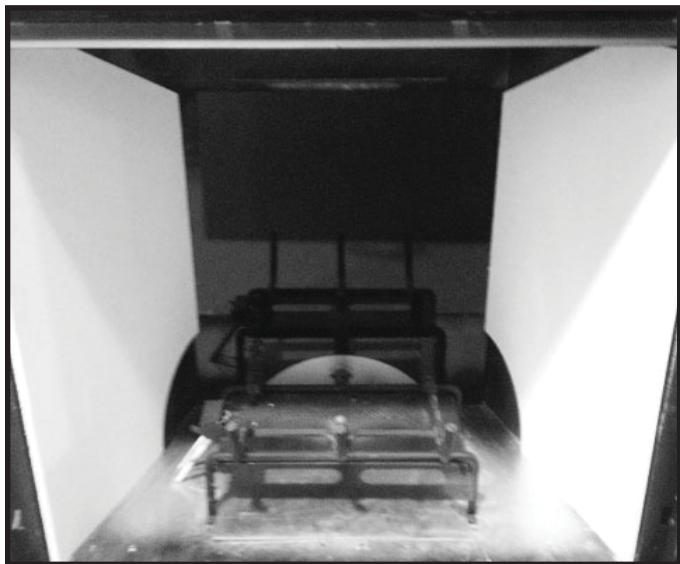

Figure 6. Left Spacer
5. Install the other white side spacer on the left side of firebox as shown in Figure 6. The spacer will be flush with the firebox lip when installed properly.